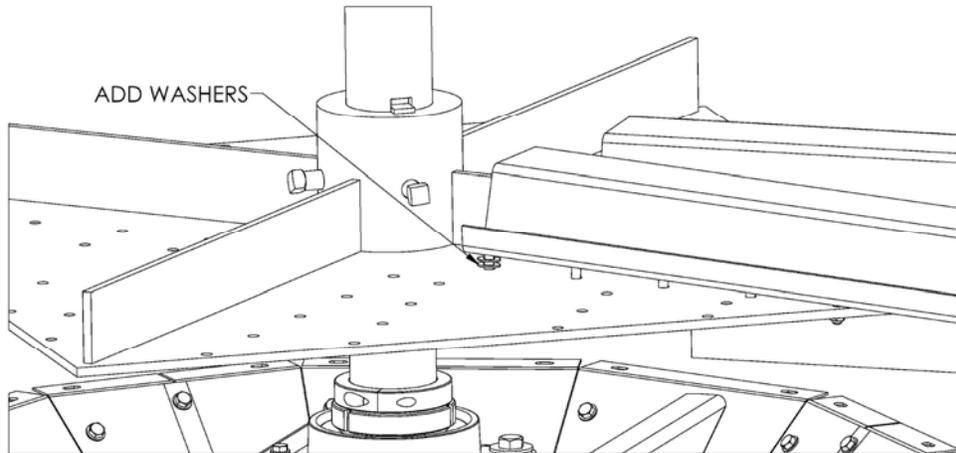

Fig. E-5 – Using shims to position scraper blades
4. **Shim main arms so scraper blades are as close to grain floor as possible without touching it.** Use washers as shims between each main arm and drive hub. See Fig. E-5. Shim washers should go only on bolts closest to center. If scraper blade needs to be higher on outside, entire drive hub should be jacked up higher. Run rotor a full revolution and make sure scraper blades do not touch grain floor. Adjust white poly wheels so they barely touch grain floor.